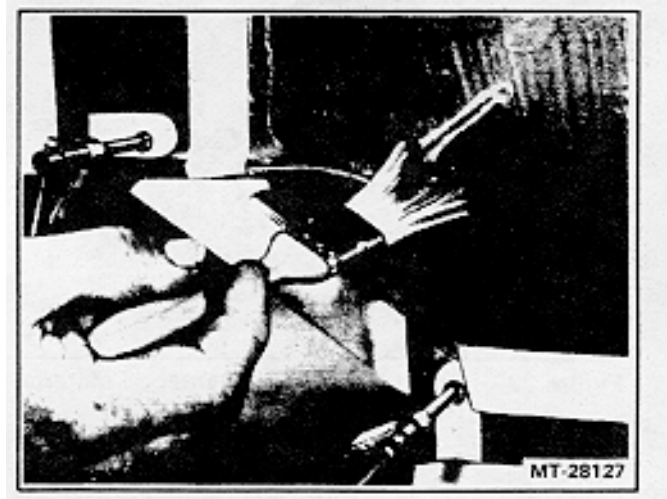

Figure 29 - Applying Resin to Separating Film
7. Apply some resin to the working area of the separating film (Figure 29).